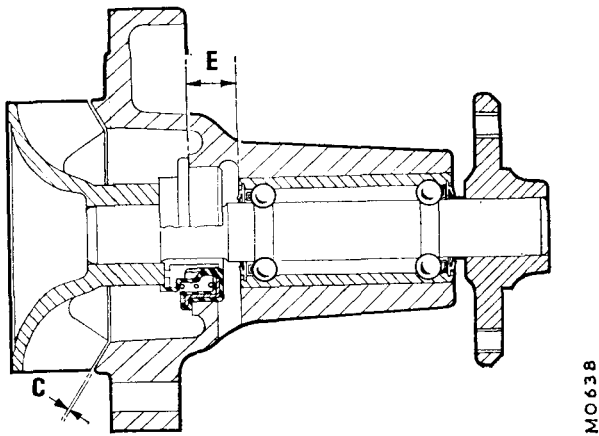

Fig. C.5
10. Press the spindle bearing assembly into the pump body and take measurement E, Fig. C.5; adjust the